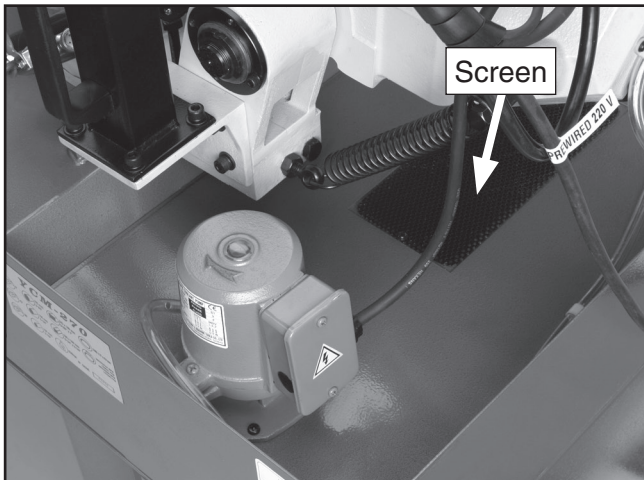

Figure 10. Cutting fluid system reservoir and cover.
3. Fill the reservoir (**Figure 10**) with your chosen cutting fluid solution and replace the screen.